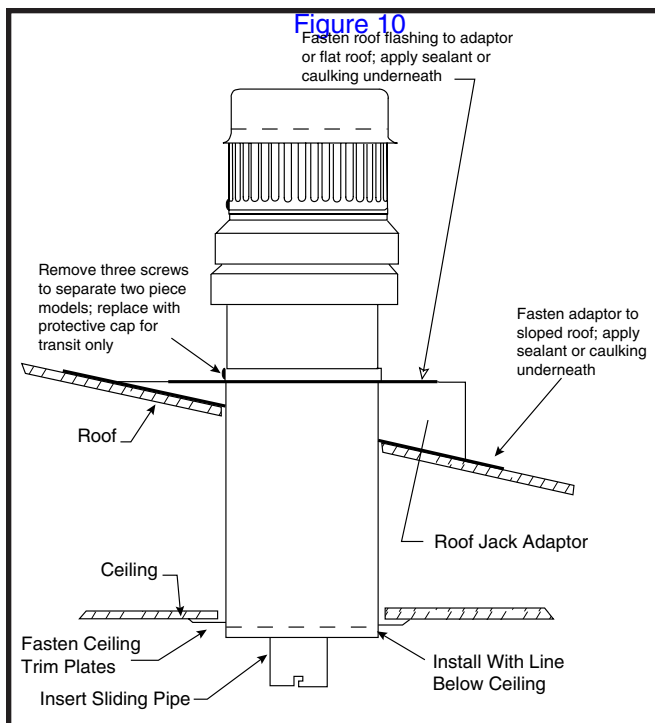
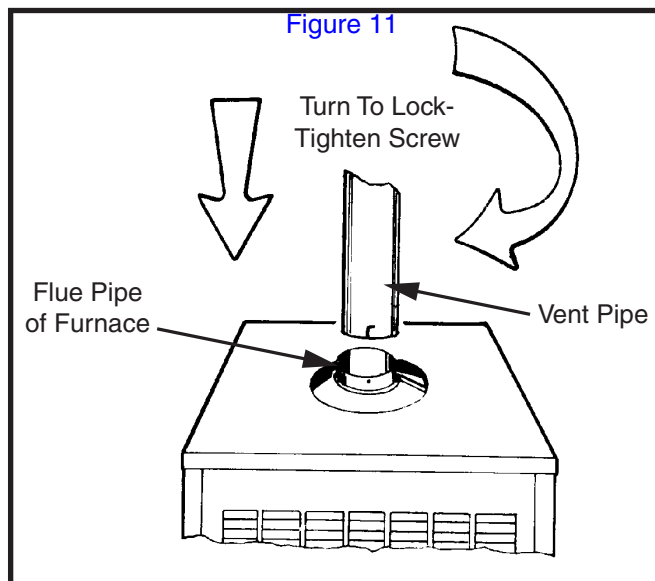

Figure 10. Roof Jack
Figure 11. Vent Pipe Installation
6. Twist the vent pipe to lock the two pipes together and tighten the screw. All joints and connections should be inspected before start up of the furnace. See Figure 10 \(page 12\) & Figure 11.